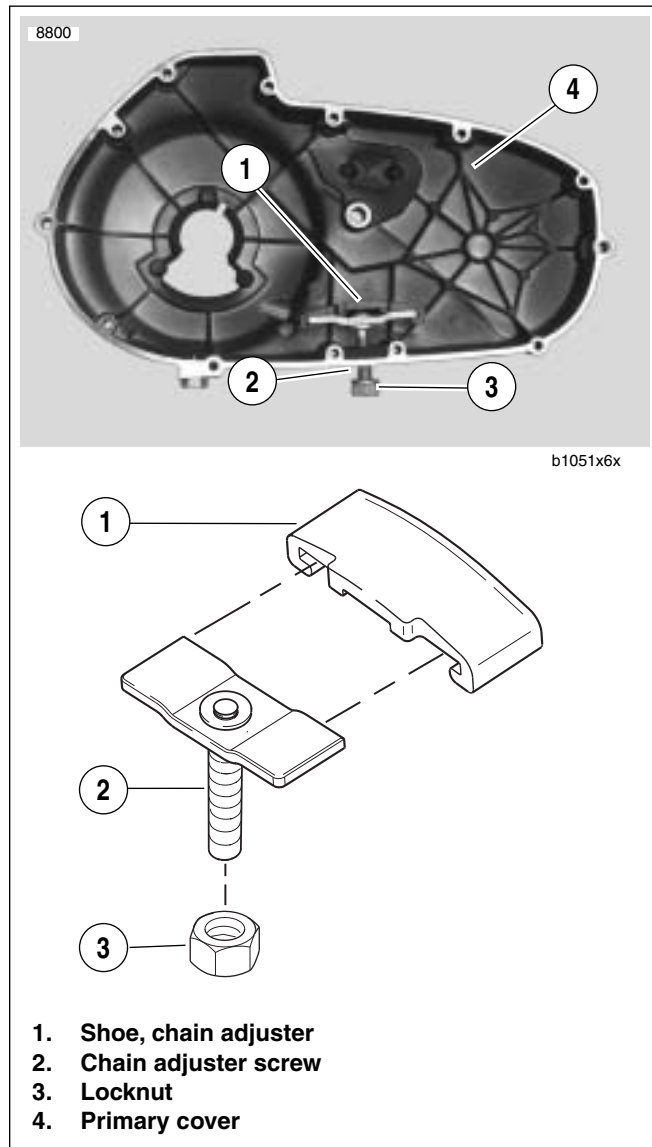

Figure 6-4. Primary Chain Adjuster
1. See Figure 6-4. Remove locknut (3) from adjuster screw (2). Turn adjuster screw out of threaded boss in primary cover (4).
3. See Figure 6-4. Inspect primary chain adjuster shoe (1). If badly worn or damaged, it must be replaced.
5. Position adjuster inside primary cover (4) with closed side of shoe against cover. Thread adjuster screw (2) all the way into tapped boss at bottom of primary cover.
6. At outside of cover, thread locknut (3) onto adjuster screw with nylon sealing surface toward cover. A 1/4-inch